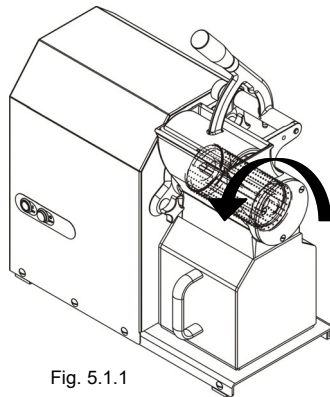

Fig. 5.1.1
**The rotation direction of the roller must match the direction shown by the arrow Fig. 5.1.1.**